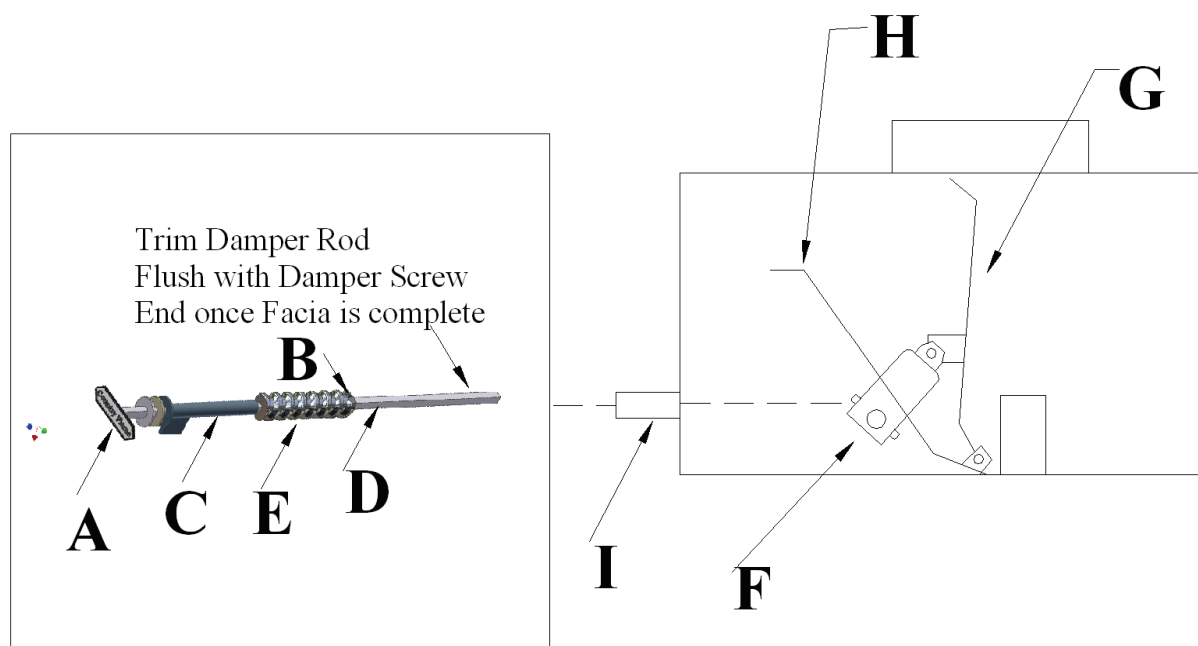
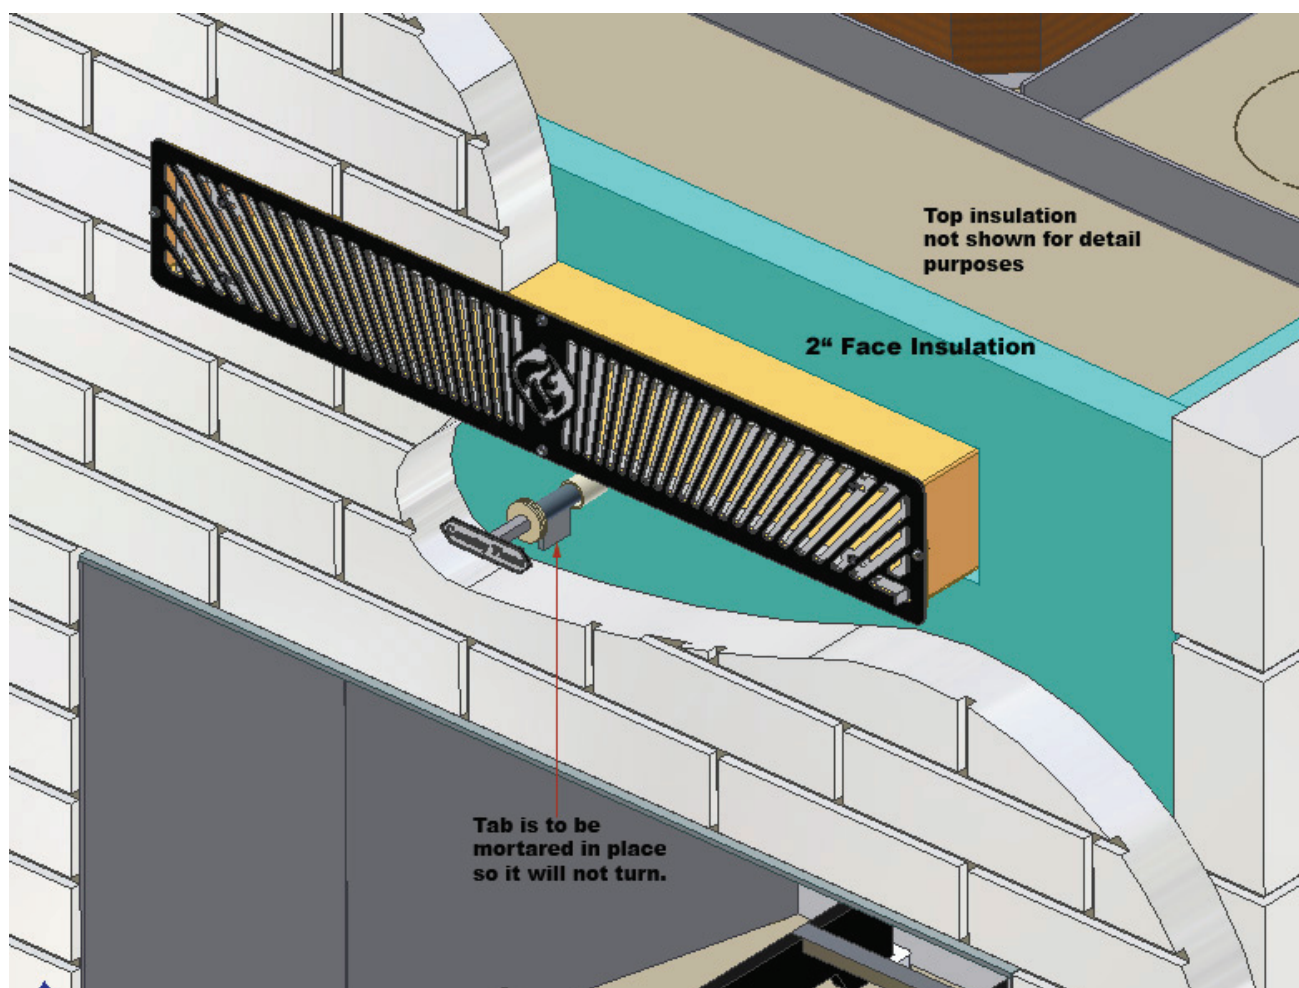

FIGURE 10: DAMPER PARTS
FIGURE 11b: DAMPER DOOR CONTROL
3. FIGURE 10 defines all the working components of the fireplace damper system. When building the front masonry brick, be sure to locate and mortar in the adjustable damper rod sleeve, FIGURE 10, item (C).
Country Flame's rotary controlled flue damper should be assembled as shown in FIGURE 10 after the fireplace is completely installed. The flue damper is extremely important to energy savings, reducing heat loss, and controlling a fire. The flue damper acts as a valve, closing off the opening to the chimney when a fire is not burning. Closing the damper reduces the amount of home heat or air conditioning that will be lost through the chimney.
Step 8 assumes that all masonry is complete and the adjustable rod sleeve, Item (C), FIGURE 10 has been or is ready to be embedded in the masonry veneer so that it cannot move. Refer to FIGURE 11b for more details on embedding Damper Handle Tab in mortar. Review FIGURE 10 to ensure a basic knowledge of each damper part and damper part name. Then follow the steps listed below in order to complete the installation of the rotary controlled damper rod.
The damper parts shown in FIGURE 10 are defined as follows:
Fireplace should be assembled as shown in FIGURE 10 after the fireplace is completely installed. At this time the adjustable damper rod sleeve (C) will be embedded in the masonry veneer and cannot turn. Follow the steps below to complete the installation of your rotary controlled damper.
1. Begin with the damper door (G) in the fully open position. Insert the damper rod (D) through the adjustable damper rod sleeve (C) from the front of the fireplace.
2. From inside the fireplace guide the washer (J) over the end of the damper rod (D).
3. Reach inside the fireplace and slide the damper screw (E) over the end of the damper rod (D) with the setscrew opening positioned toward the rear of the fireplace.
4. Push the damper rod (D) as far toward the rear of the fireplace as possible. Push the damper screw (E) as far to the front of the fireplace as possible.
5. Mark the damper rod (D) flush with the end of the damper screw (E).
6. Remove the assembly and cut the damper rod (D) off at the mark you made in Step 5.
8. Insert the damper screw (E) into the damper screw bracket (F) and turn it completely counter clockwise until it seats.
9. Slide the end of the damper screw (E) without the setscrew opening over the end of the damper rod (D) and push both the damper screw (E) and the damper rod (D) toward each other as far as possible.
10. Tighten the setscrew (B) at the back of the damper screw (E).
NOTE: At installation, ensure the Damper Handle tab is mortared in place to prevent it from turning during use. Refer to FIGURE 11b for more detail on the Damper Handle.